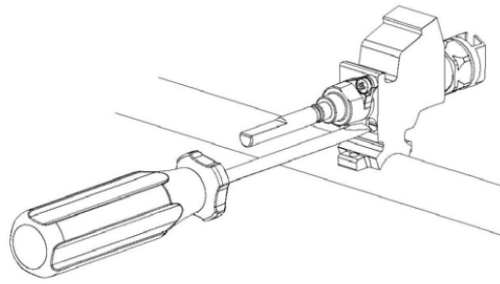

Fig 2
- Insert a small slotted screwdriver into the hole on the valve body (fig 2) and turn the choke screw to the right or left until the burner flame is adjusted to minimum.